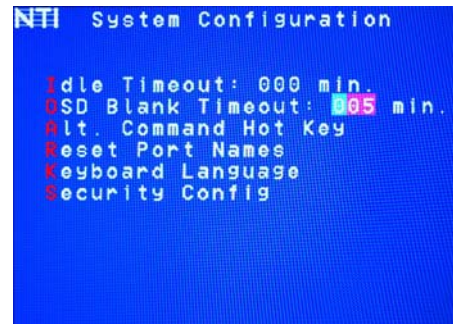

Figure 42- Change the value of OSD Blank Timeout
1. press <O> from the System Configuration menu to display the edit field around the value (see Figure 42)